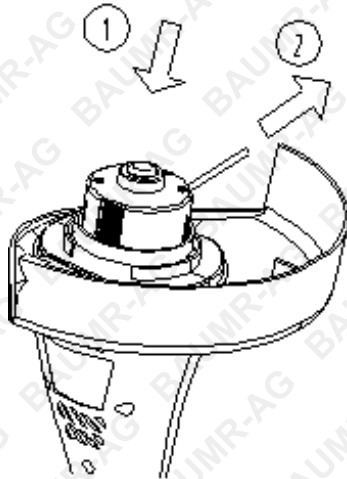

FIG. 5
- a. Press the spool button (FIG. 5).
- b. Pull more nylon wire to lengthen (FIG. 5).